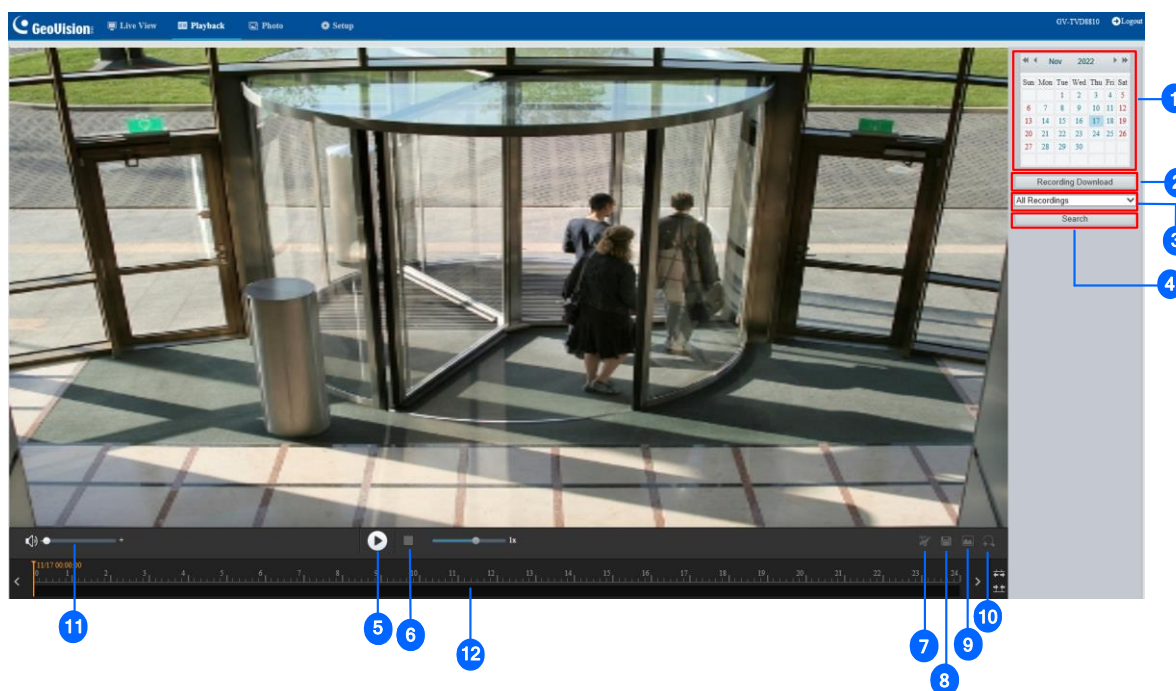

Figure 2-15
1. Click **Recording Download** (No. 2, Figure 2-15) on the right of the Playback window.